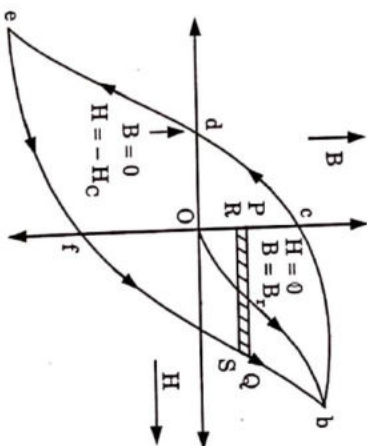

Fig. 3.2.1. Hysteresis loop.
- Hysteresis curve:** Plotting a graph between B and H for a ferromagnetic material is known as hysteresis curve or B - H curve as shown in Fig. 3.2.1.
- Residual magnetism:** It is defined as the magnetic flux density which still persists in magnetic material even when the magnetizing force is completely removed. In Fig. 3.2.1 on reducing the value of H from the saturation region to zero there remains a flux density B_r which is residual magnetism.
- Coercive force (field):** It is defined as demagnetizing force which is necessary to neutralize completely the magnetism in an electromagnet when the value of magnetizing force becomes zero. In Fig. 3.2.1, H_c is required to reduce flux density to zero and is called coercive force.